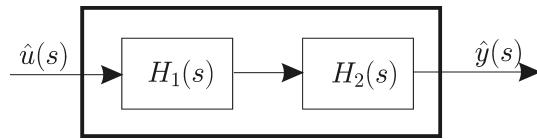

Figure 4.3: Two systems in series
- 1) Let us consider two systems of transfer functions  $H_1(s)$  and  $H_2(s)$  placed in series as shown on Figure 4.3.